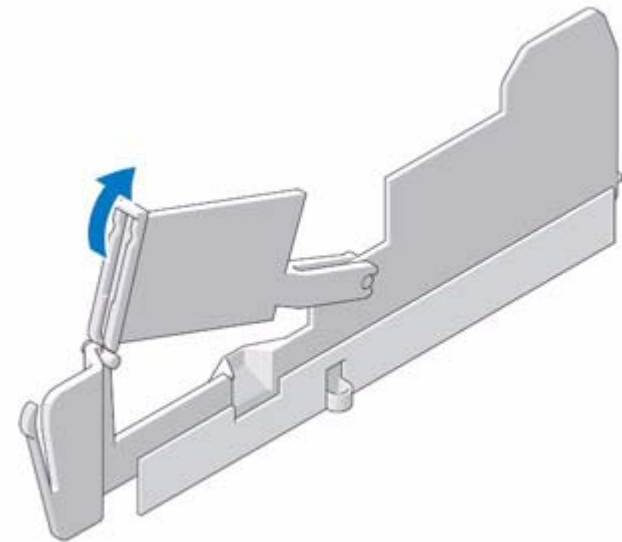

Figure 23:
4. Rotate the Processor Access Door to its open position as shown in Figure 23 on page 32.